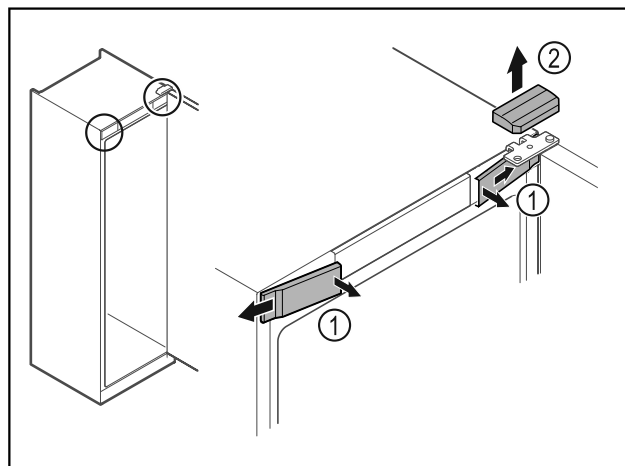

Fig. 6*
- Unlatch the front covers Fig. 6 (1) on the inside and remove them sideways.*
- Lift off the upper cover Fig. 6 (2).*